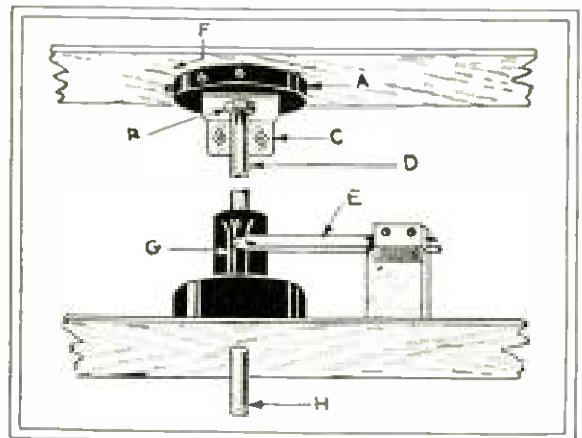

Fig. 2
The audio end has been redesigned, to give larger output on weak signals. An output pentode was retained for the final stage, but with the added power of a '47; while a first A. F. stage tube V3 was added. The latter is of the '24 screen-grid type, with resistance-capacity coupling into the power stage. A consideration of the effective circuit (Fig. 2) will show that an A. F. signal of only .029-volt will develop the full 2.5-watt output of the pentode; that is, the total effective voltage gain of the audio amplifier is approximately 8,500.
*clockwise* position. Hold the knob in this position, and rotate the rear resistor casing to its *counter-clockwise* position. Without allowing the volume-control knob to turn, tighten the nut holding the rear casing to its bracket. (Fig. 2).